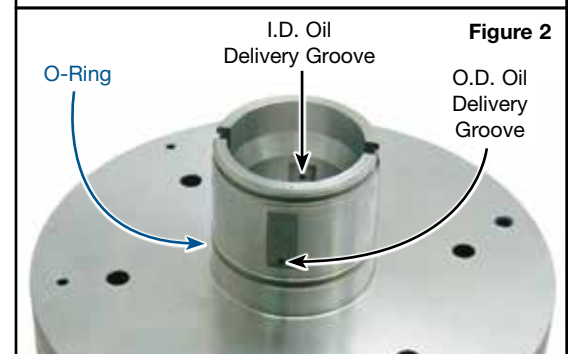

Figure 2
- a. Install Sonnax O-ring into O-ring groove and lubricate with TransJel® (Figure 2).